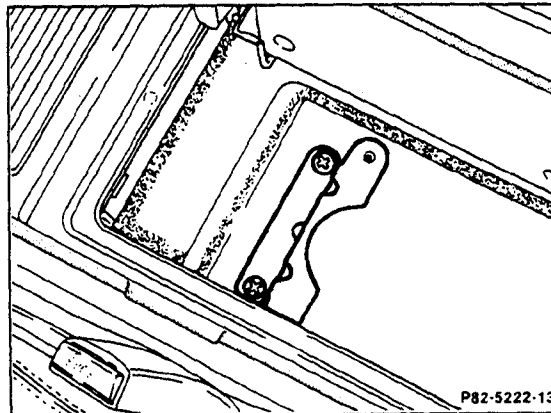

Figure 10
8. Place angular cradle bracket in console with raised edge of bracket pointing towards the rear of the compartment (Figure 10). Secure bracket using the two removed screws.